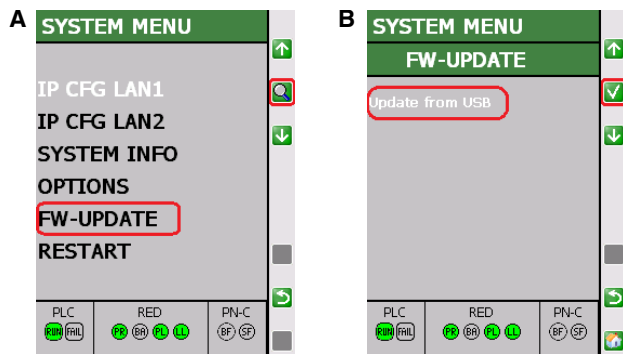

Figure 17 Update from USB (in the figure:
- Call the "FW-UPDATE" menu item in the system menu using the operating keys ((A) in Figure 17).
- Start the firmware update using the  key ((B) in Figure 17).